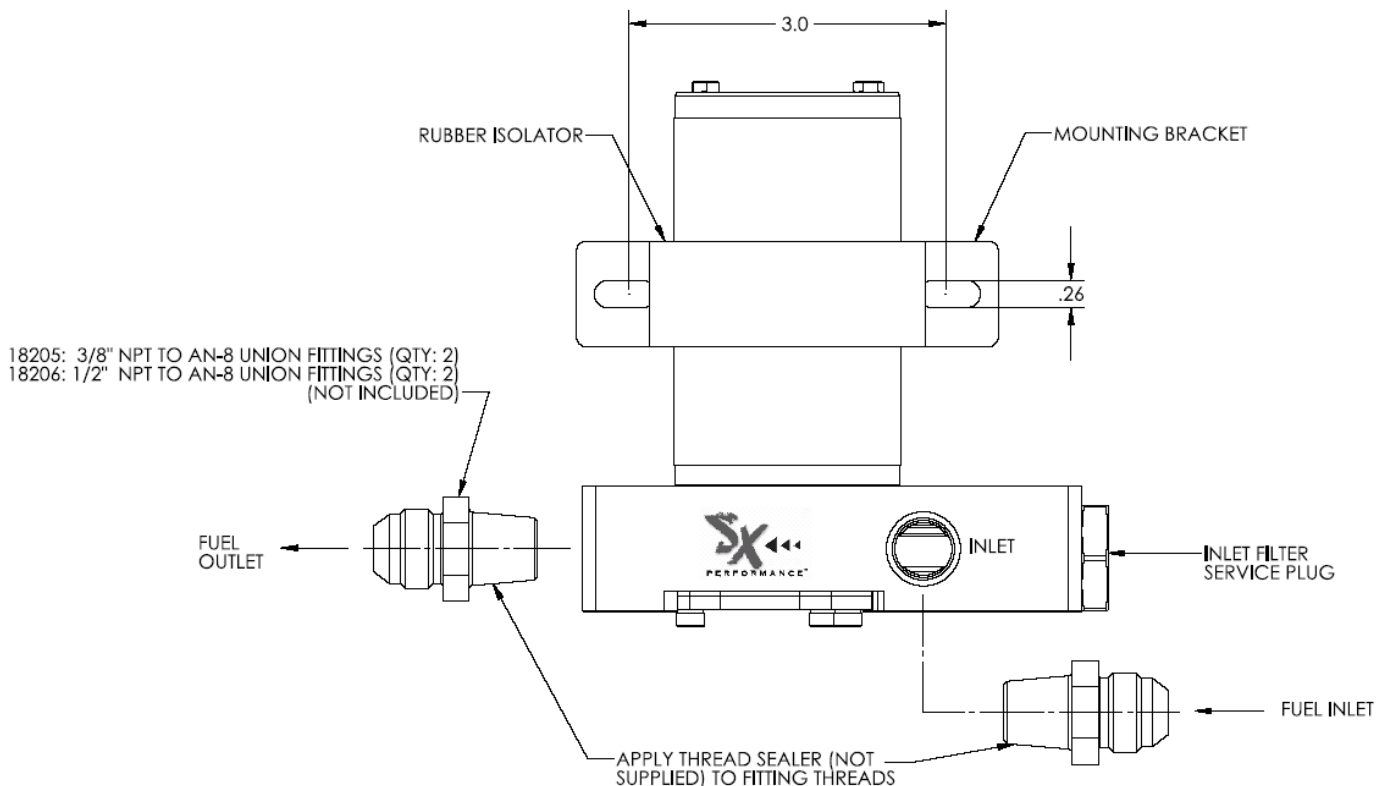

Figure 1 – SX Performance™ Model 18205/18206 Fuel Pump
3. Assemble mounting bracket and rubber isolator to pump. Torque bracket screw to 5-15 ft.- lbs. Mount the new pump in a suitable place on the vehicle chassis using quality hardware (not supplied). Refer to Figure 1 for mounting hole locations. Replace existing fuel lines as necessary to line up with the new pump.
4. Connect and tighten fittings to the inlet and outlet fuel lines, see Figure 1. Use thread sealer (not supplied) on fitting threads